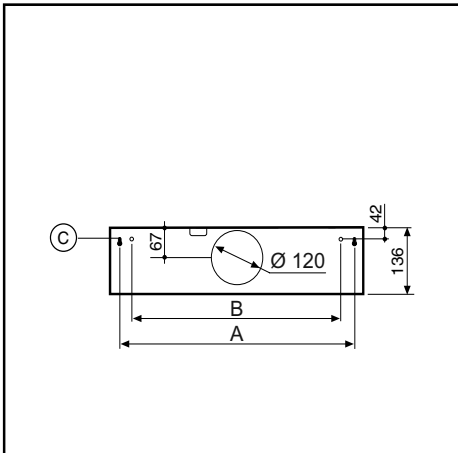

Fig.3
• MOUNTING THE RANGE HOOD TO THE WALL - (Fig.3)
Mark out the 4 holes (C & P) as per the dimensions "A" and "B" (Fig. 4) corresponding to the model purchased. Use screws and expanding anchors suited for the type of wall (for example: cement, plaster, etc.). Hang the range hood on the wall using the 2 holes "C" (Fig.3). Finally fix the cooker hood to the wall using the two lower safety holes "P".